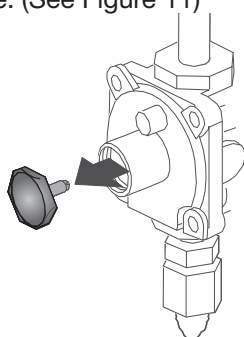

Figure 12
- 3** Unscrew the regulator cap with a wrench. (See Figure 12)